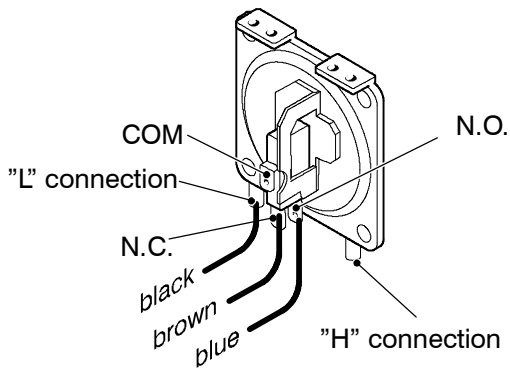
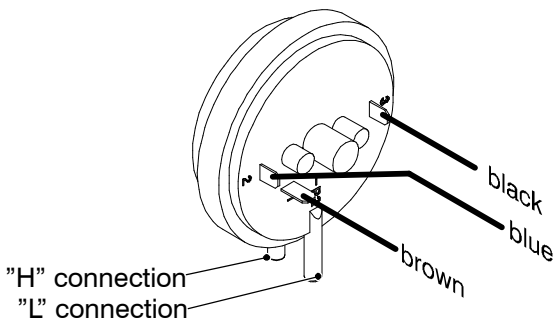
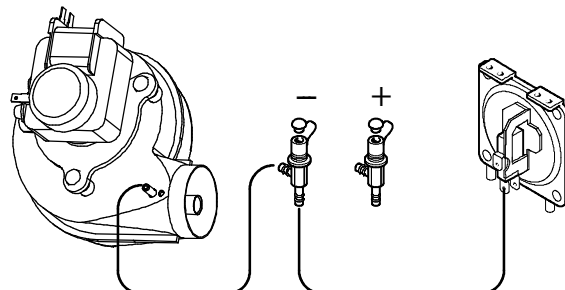

Fig. 69a
Fig. 69b
Fig. 72
- 2 Disconnect the wires and check the electrical resistance between the connections of the Air pressure switch. Refer to the Fig. 69a or b in accordance with the type of air pressure switch used.
**Warning: to correctly connect the venturi device to the Air pressure switch, refer to Fig. 72.**
**Warning: to correctly connect the Air pressure switch, refer to Fig. 72 and Fig. 69a or Fig. 69b for the correct wiring.**